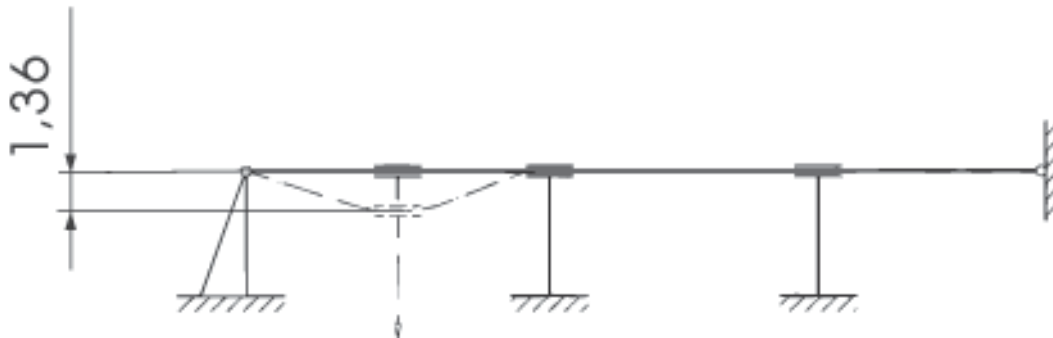

Figure A1 - maximum deflection of the anchorage device
- A 11. Determine the distance required between the Söll-Xenon anchorage device and the ground or an obstacle by taking into account the deflection of the rope which depends on the location of the anchorage device (overhead installation, on ground, ...) and the type and length of the coupling element (refer to the example). The maximum deflection of the rope is 1.36 m (see figure A1). Lower deflections must be substantiated with calculation in particular cases